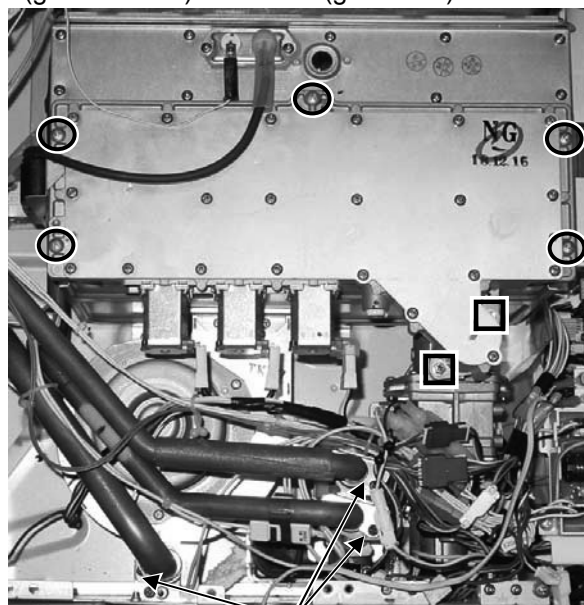

Figure 7
6. Remove the 5 screws that attach the gas manifold to the combustion chamber (part of the heat exchanger assembly). (Figure 7)
7. Remove the 2 screws that attach the gas manifold to the gas valve. These screws are machine screws and must be used at these locations. (Figure 7)